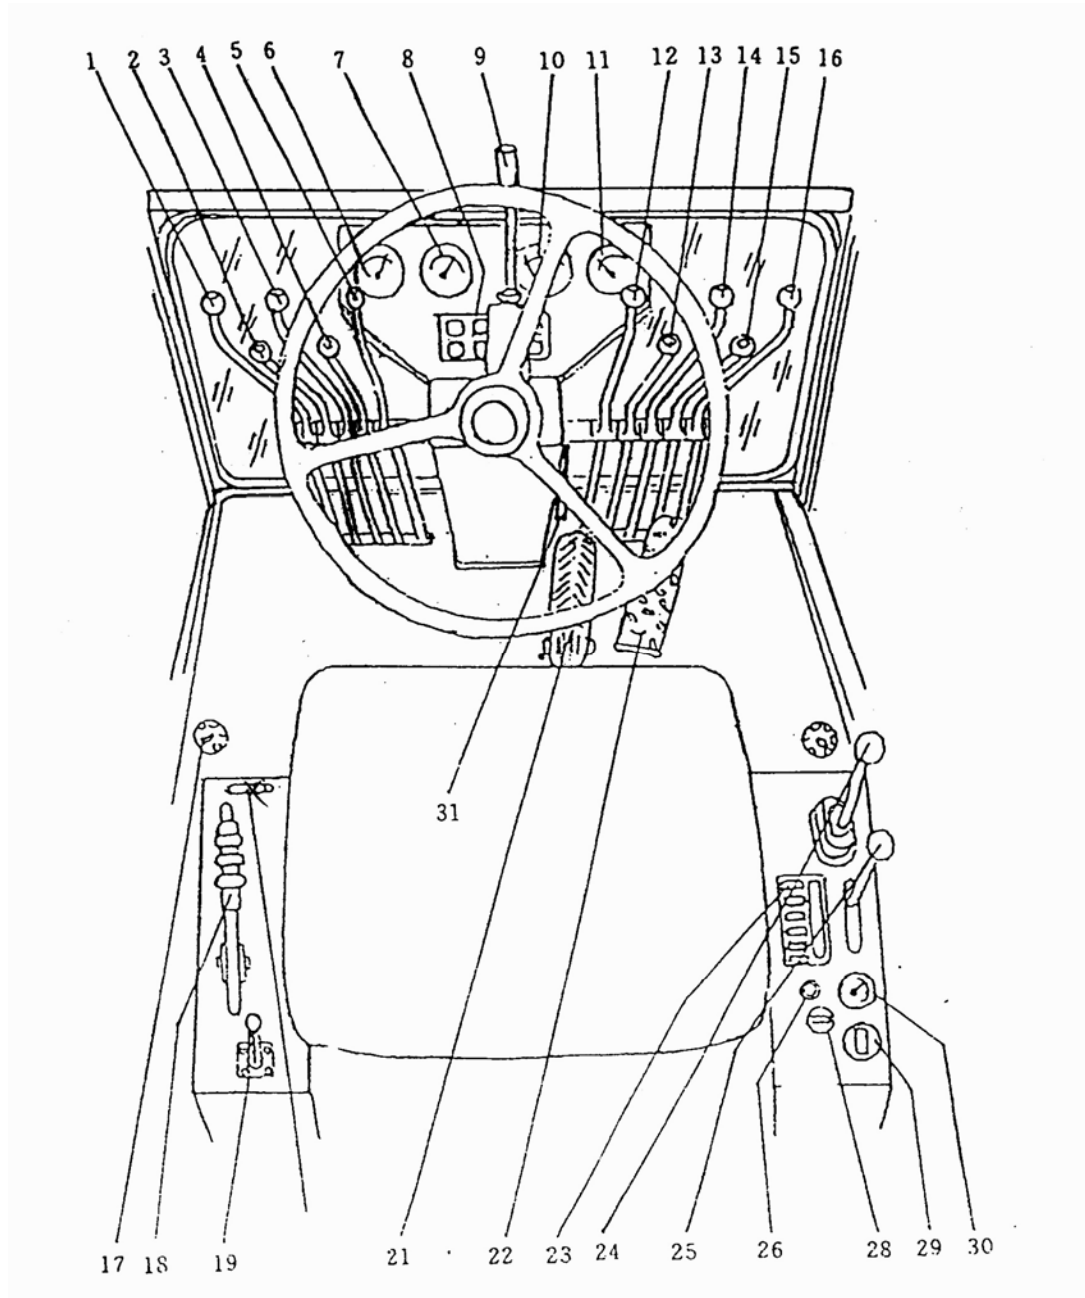

Fig.11
Push down the handle of the main power switch (Fig.11/19) and main power is on .
2) Ignition switch (Fig. 11/28)
3) Extinguishing button (Fig.11/26)
1) Thermometer for torque converter outlet (Fig. 11/10)
3) Water-thermometer (Fig 11/11)
7.3.6 Accelerator pedal (Fig. 11/21)